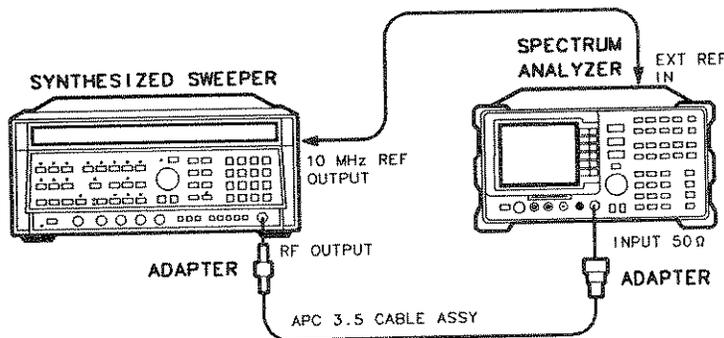

Figure 4-3. Frequency Readout Accuracy Test Setup
1. Connect the equipment as shown in Figure 4-3. Connect the 10 MHz REF OUT of the HP 8340A/B to the EXT REF IN of the analyzer. *Option 026:* Use the 3.5 mm adapter to connect the cable to the analyzer input.